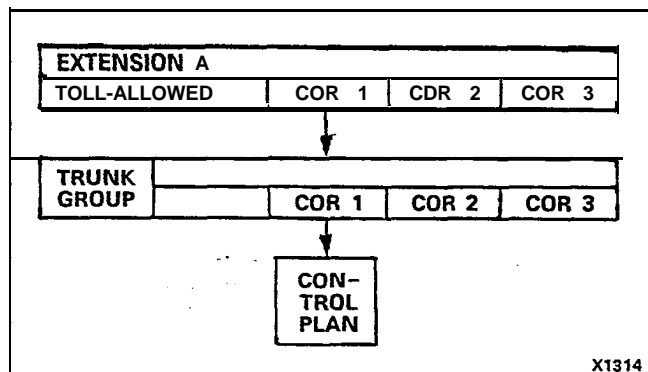

Figure 9-1 Control Plan Assignment
9.03 Example 1. Allow Extension A to ALL local NNX codes and to the three N(0/1)X codes - 212,714 and 303. Deny access to the CO operator and the complete toll network (Figures 9-1, 9-2).